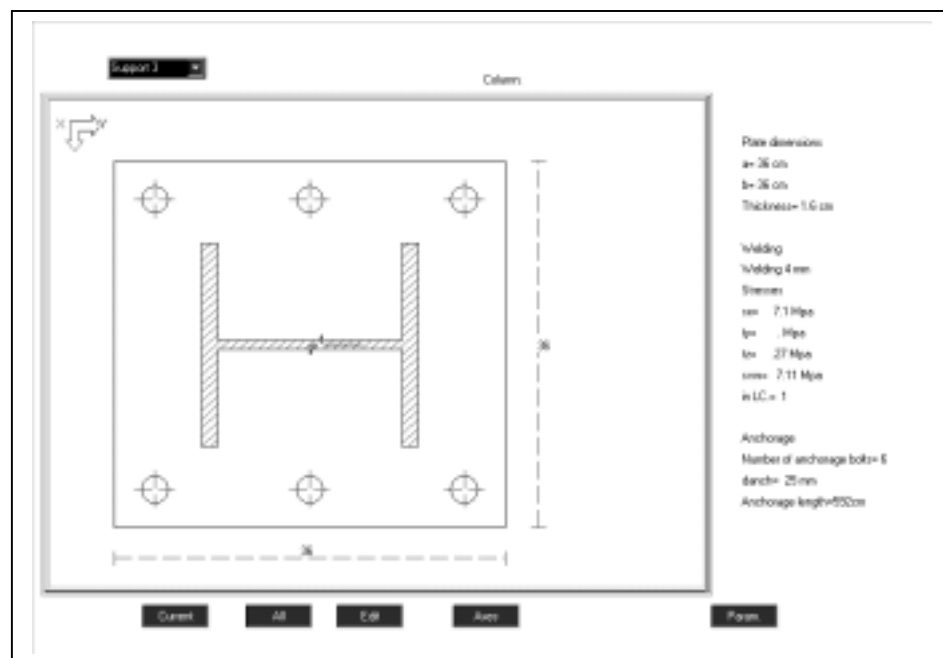

Figure 81 The window of the sub-programme that carries out the end plate's competence checks and sets its dimensions.
1. Choose the command Analysis > COLUMN BASE DESIGN. The central window of the sub-programme that is responsible for the Column Base Design will appear on your screen (figure 81).